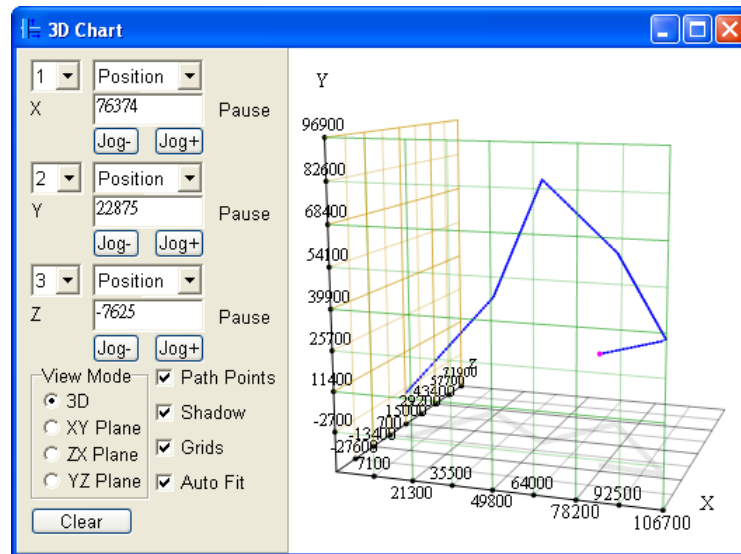

Figure 13-2 Three-dimensional chart
- (2) Users have to make the motion controller operational. After the motion controller begins to execute the motion program, the three-dimensional motion path of the three axes of the motion controller will be drawn in the **3D Chart** window according to the actual output of the three axes. Please see figure 13-2.